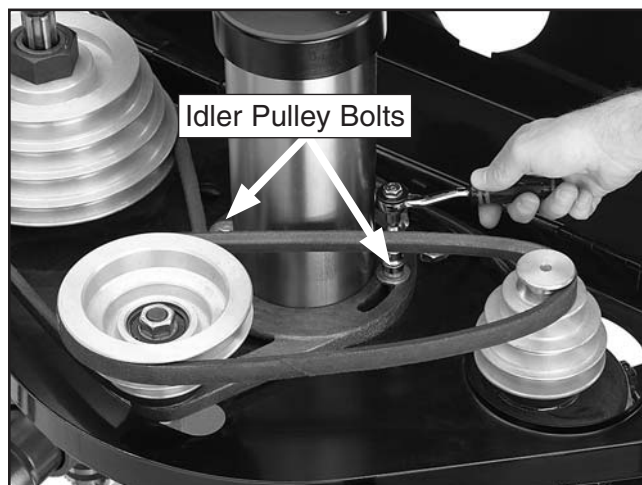

Figure 27. Pulley system.
3. Loosen the two idler pulley bolts that hold the idler pulley in place so the pulley can move freely (**Figure 27**).